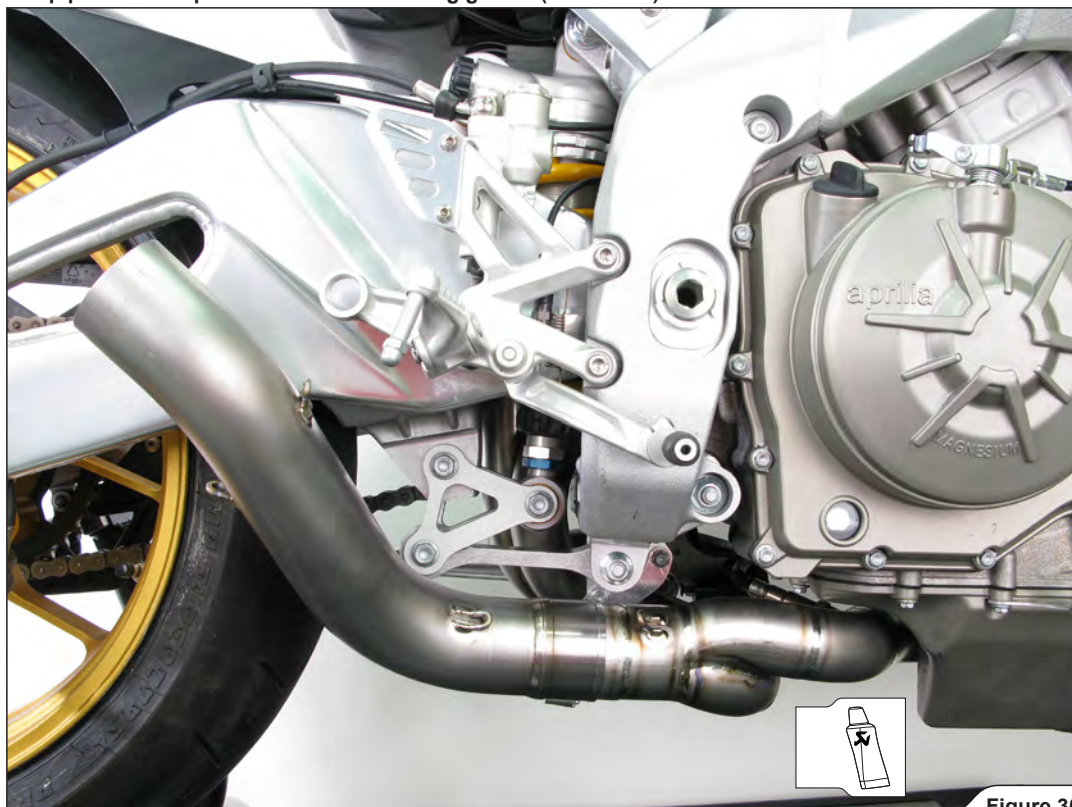

Figure 30
9. Slide the link pipe onto the collector and attach the springs (Figure 30).